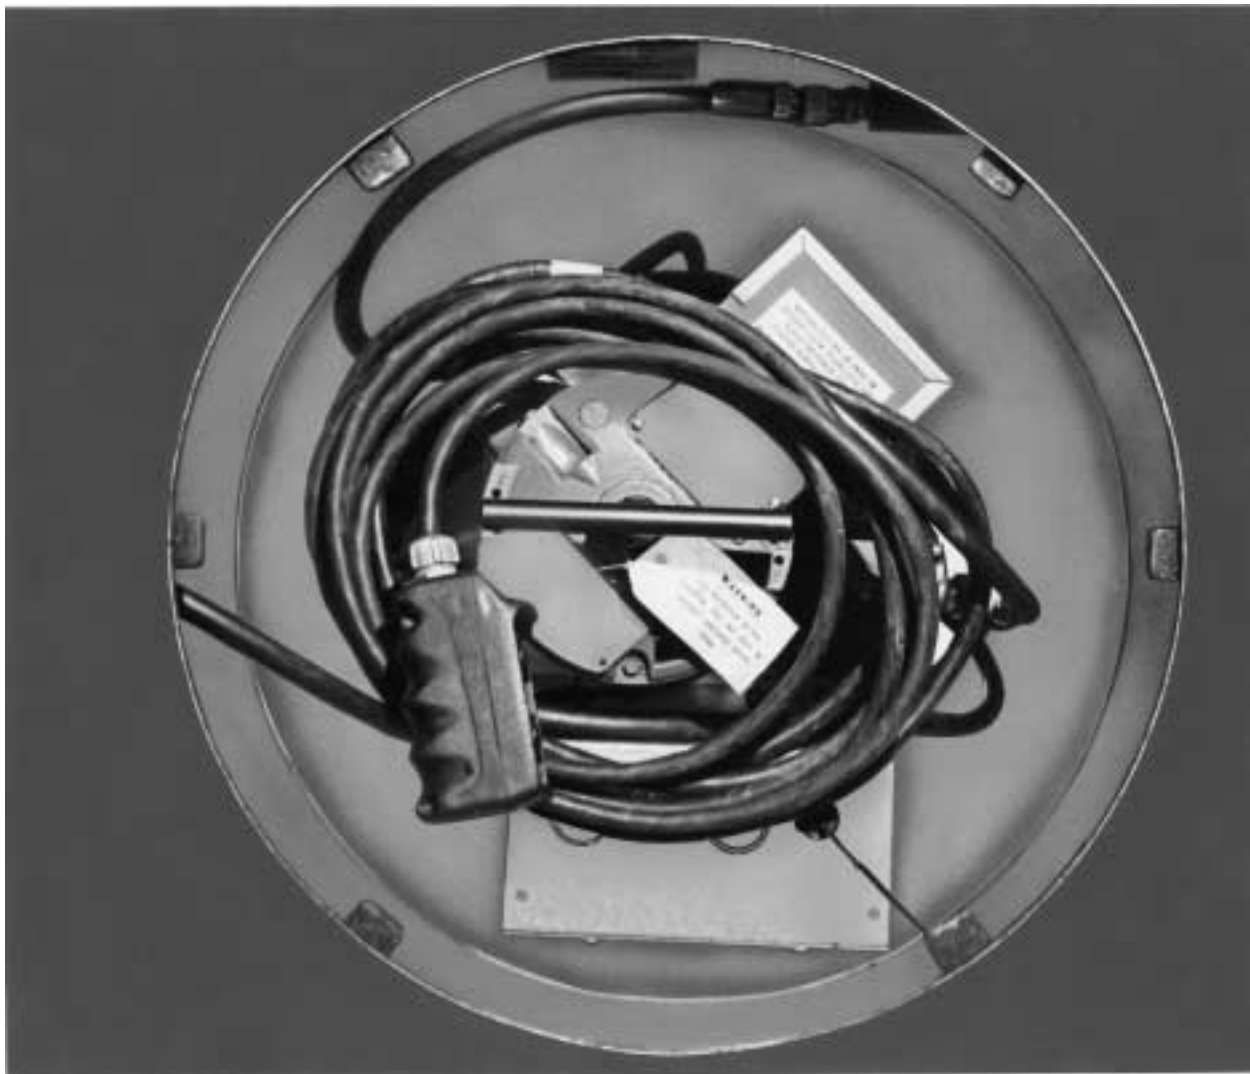

Figure 23
2. Coil remote control switch cord and position it on top of motor as shown in Figure 23.
2. If remote control switch cord was coiled and positioned on top of motor, as shown in Figure 23, route hand-held control unit out through bottom of pedestal.